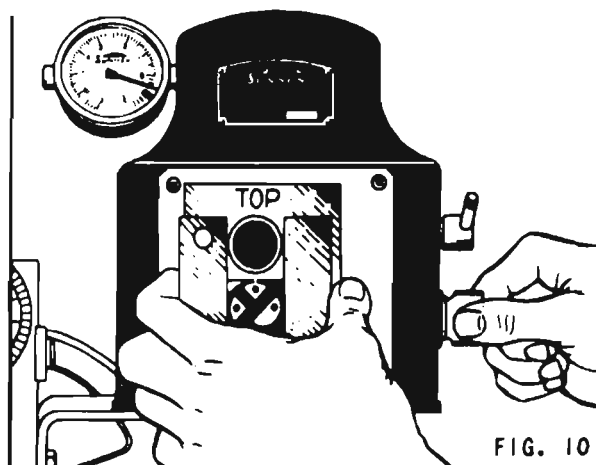

FIG. 10
3. With pins assembled in setting fixture, place on gage with "TOP" up (thumb screw handle on left), and only the brass wear buttons against face of gage. Allow setting fixture to rest on centralizer arm straight up and down. See Fig. 10. *IMPORTANT: If gaging fingers are bumped or jarred in set-up or gaging operation, be sure to check gage with setting fixture and with calibrator ring if necessary.*